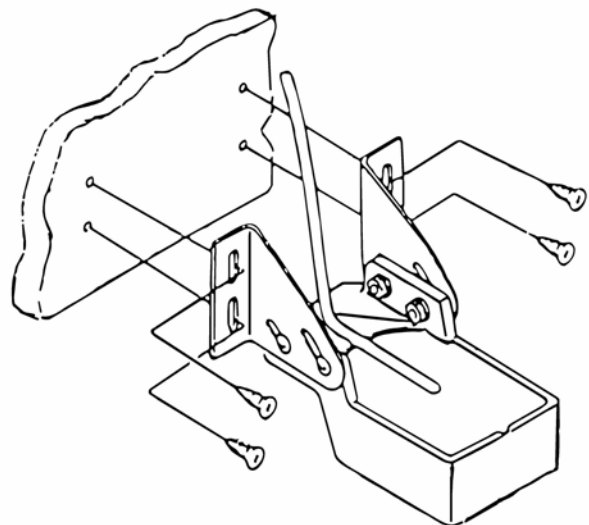

Figure 3 – Mounting to transom
5. Fasten the transducer to the transom using the #10 x 3/4" screws. See Figure 3.